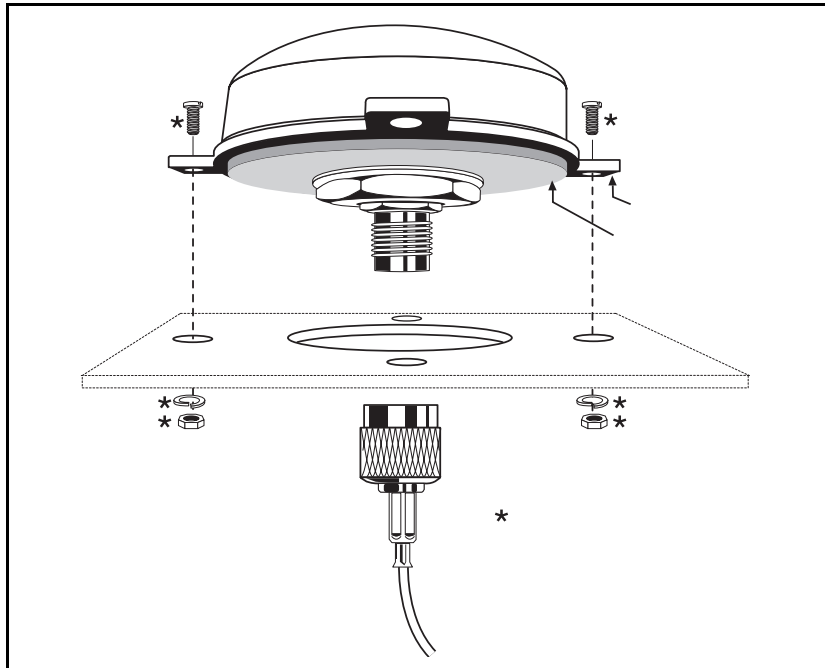

Figure 2.9 Mounting the miniature bulkhead mount GPS antenna with flange (PN 31192-00)
1. Drill holes in the mounting surface using the antenna mounting template shown in Figure 2.9.